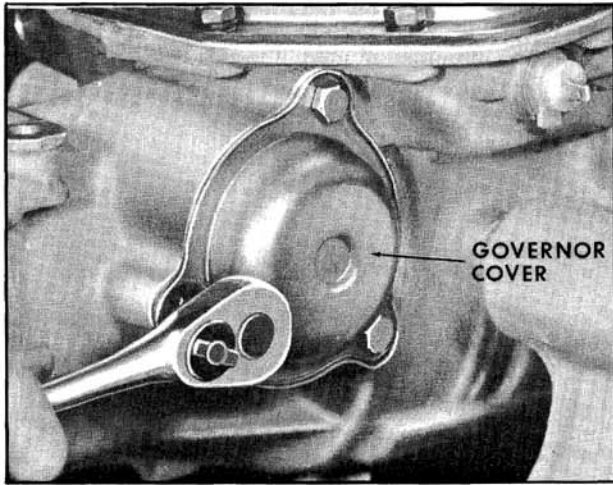

Fig. 6-543 Installing Governor Cover
2. Install governor gasket and cover to case. Torque bolts to 12 ft. lbs. (Fig. 6-543)